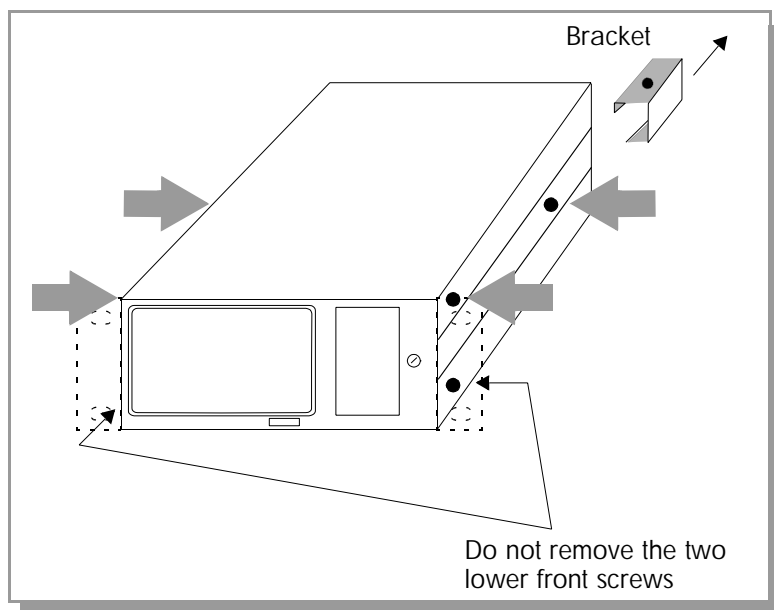

Figure 2-2 Location of Screws for Removal of Top Cover.
- Remove the four Phillips head screws identified in Figure 2-2. If the unit is equipped with a rear bracket instead of one rear screw, unfasten the Phillips head screw on the bracket, and slide off the bracket.